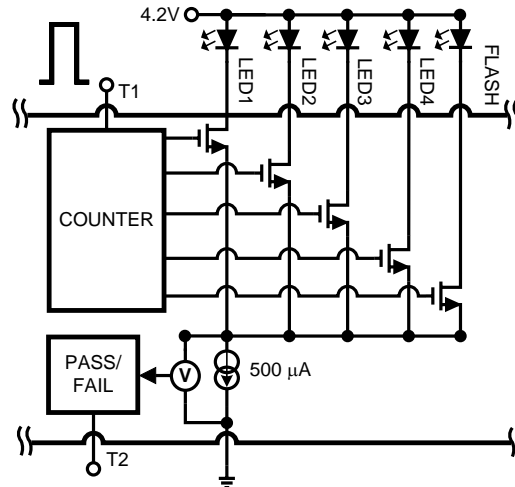
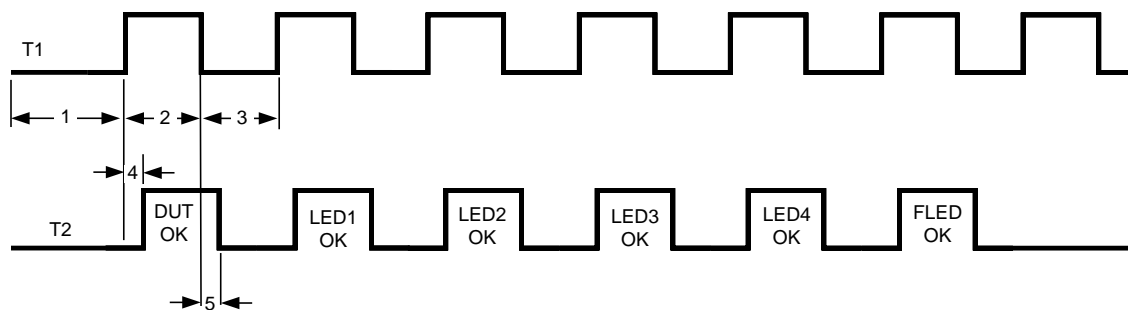

Figure 20. High Level Schematic Representation of the Test Interface
Figure 21. Test Interface Timing Diagram
- Production test 1:** The LP5527 is assembled on a printed wiring board (PWB), but there is no LEDs connected on current sink outputs. An external 4.2V test voltage is supplied on the  $V_{DD1}$  and  $V_{DD2}$  pins, from which follows that the reset operating mode is entered with POR. Test pin T1 is pulled high. The chip will send an acknowledge "1" onto the T2 pin if the chip is in working order; otherwise T2 stays low (0). See Figure 21.
- Production test 2:** The LP5527 is assembled on a PWB with the external components shown in LP5527 Block Diagram. 4.2V voltage is connected to  $V_{DD1}$ ,  $V_{DD2}$  and FB pins (see Figure 20), from which follows that the reset operating mode is entered with POR. Test pin T1 is pulled high. The chip will send an acknowledge "1" onto the T2 pin if the chip is in working order; otherwise T2 stays low (0). If the ACK is "1", a repetitive test pattern "0-1-0-1-0-1-0-1-0-1-0-1" is applied to T1 pin and if the LED corresponding the pattern (see Figure 21) is connected properly T2 gives "1", otherwise T2 stays low. The last "1" disengages the test.